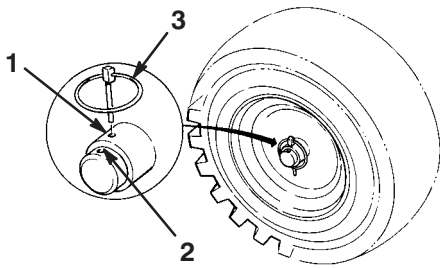

Figure 5
- Slide the wheels inward and insert each axle pin through the hole in each wheel hub and through the *inner* hole of the axle (Fig. 5).